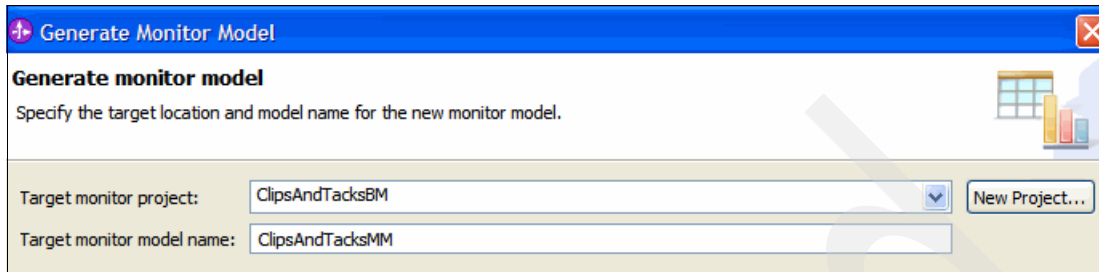

Figure 6-45 Specifying the target location of monitor model
4. In the Generate Monitor Model window (Figure 6-45), for Target monitor model name, type `ClipsAndTacksMM`. Click **Next**.